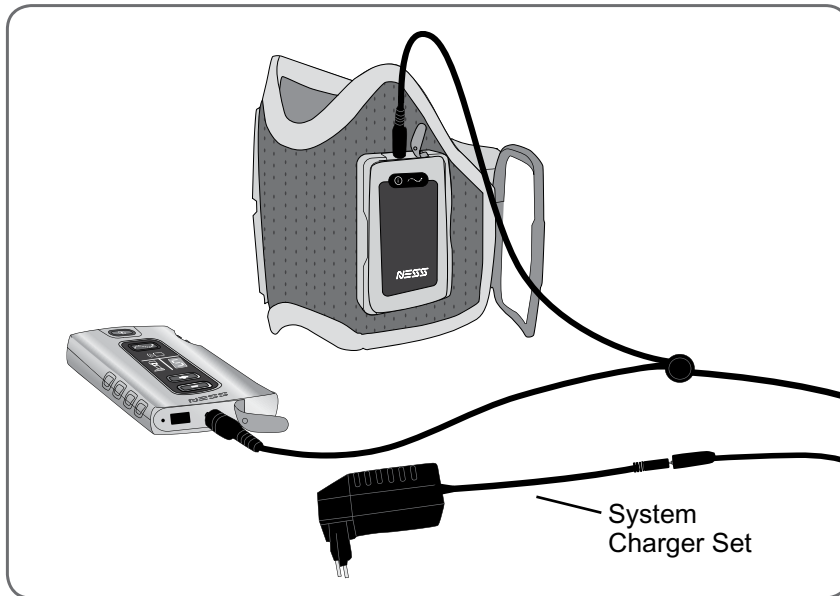

Figure 8-2: Charging set-up. (L300 Regular FS Cuff shown).
3. Connect the system charger set to the Control Unit and RF Stim Unit. See Figure 8-2.